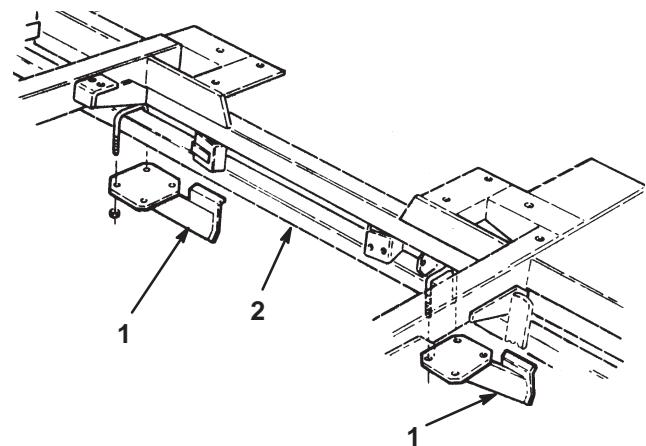

Figure 8
- Locate mounting position of roller bumpers (Fig. 8) on each side of frame tube in front of #1 cutting unit.
- Loosely secure a roller bumper to each side of frame tube, as shown in Figure 8, with U-bolts and locknuts.